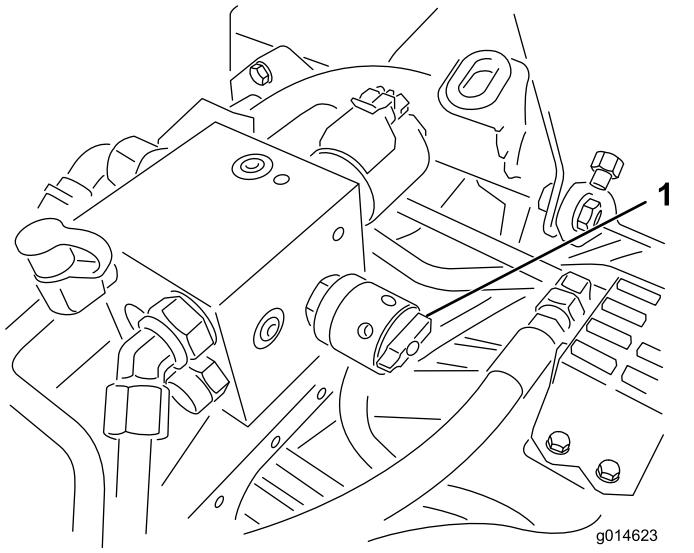

Figure 38
4. To set the reel speed, rotate the knob (Figure 38) until the indicator arrows are in line with the number designating desired setting.